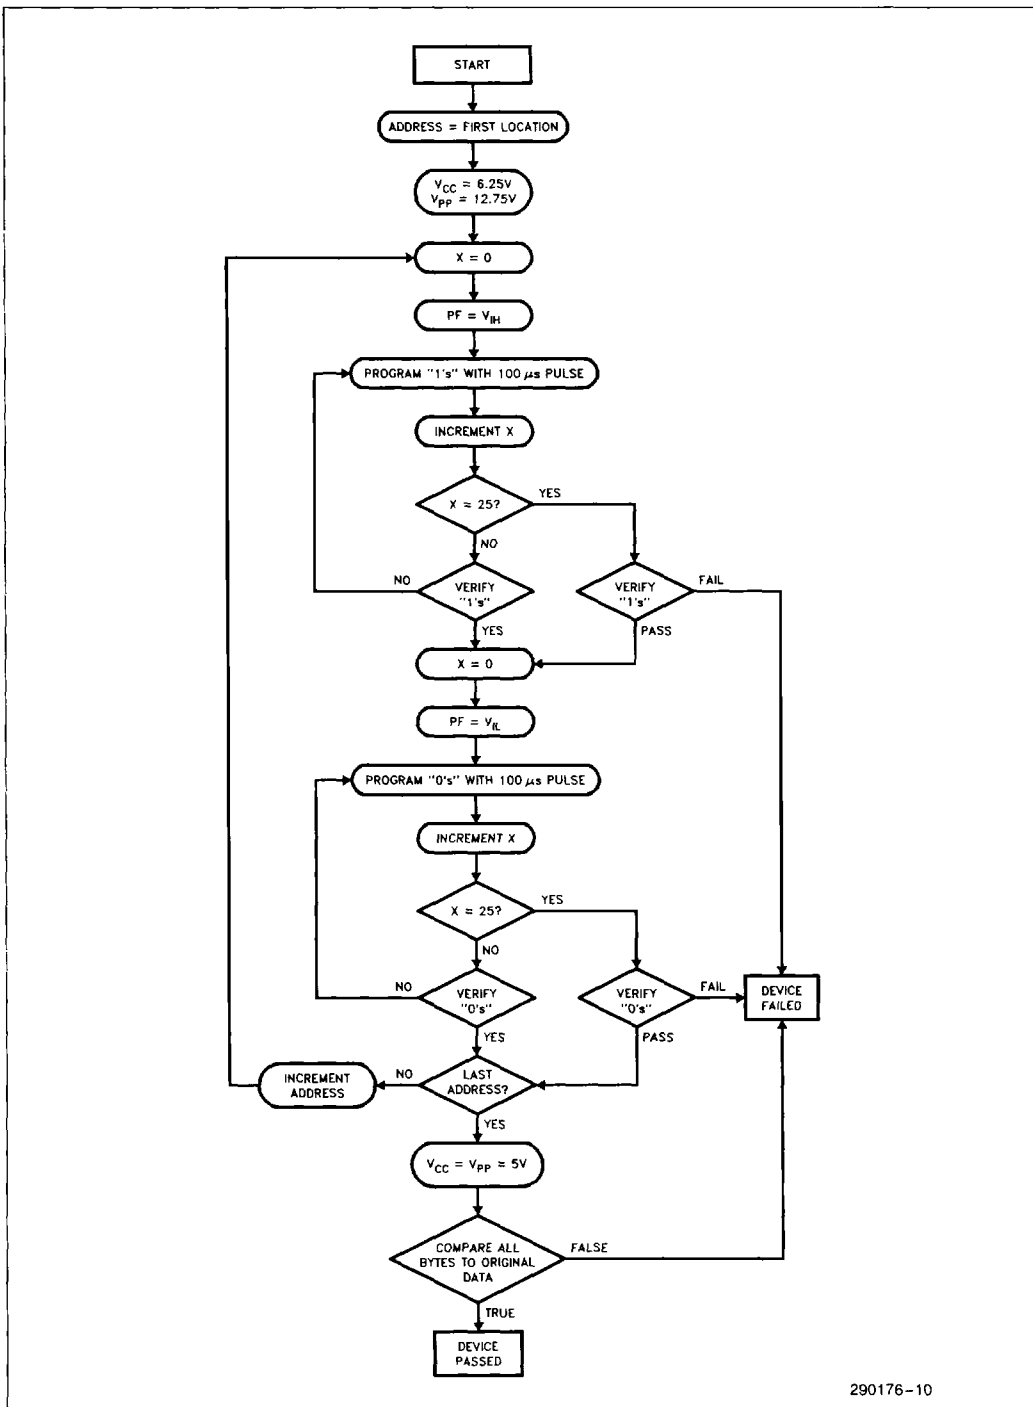

Figure 5. 27C203 Quick-Pulse Programming™ Algorithm
To minimize data access time delays, the 27C203 utilizes a 2-transistor cell with differential sensing. The 2-transistor cells are partitioned into "ONES" and "ZEROS" arrays. Programming is done in two passes; once in the "ONES" half of the memory array and once in the "ZEROS" half. The same data word must be presented to the device in both passes. A program function (PF) pin is provided to control this partitioning (see Figure 5).
The Quick-Pulse Programming algorithm uses a 100 microsecond initial-pulse followed by a word verification to determine when the addressed word is correctly programmed. The algorithm terminates if 25 100 μ s pulses fail to program a word. This is repeated for both the "ONES" and "ZEROS" programming. Figure 5 shows the 27C203 Quick-Pulse Programming algorithm flowchart.